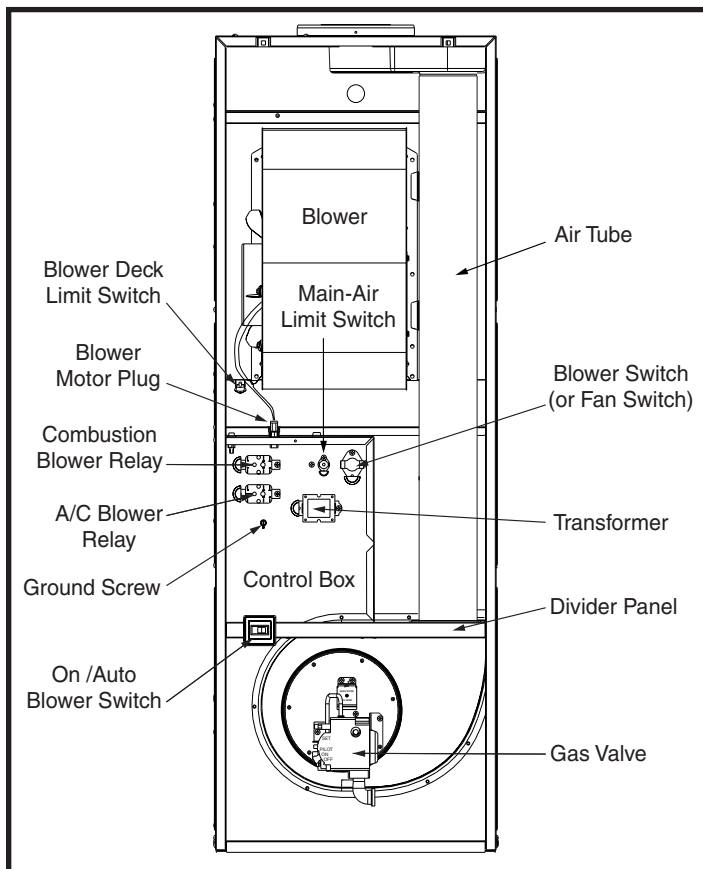

Figure 1. Typical M1G Series Furnace Without Combustion Fan
4. Remove the two fasteners from the base of the air tube that secure it to the divider panel. See Figure 1.